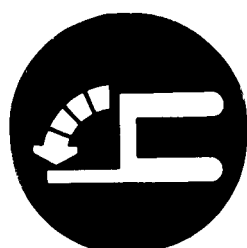

Figure 1-12.
5. Starting with the mast in the forward position and fully shifted to the right, push both the pivot and shift control levers forward. (Figures 1-12 & 1-13). You will notice both mast clockwise rotation and left hand shifting actions. The actions, however, will not be synchronized and one function will bottom out before the other. Continued practice in simultaneous feathering (metering) of the control levers will produce a smooth, synchronized action.